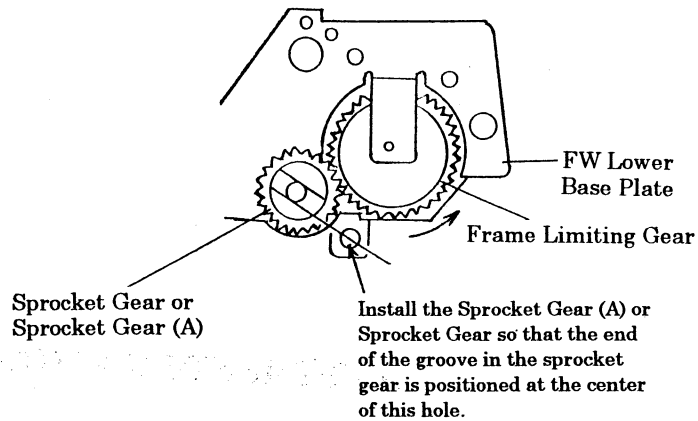

Fig.69
- 2) Install the Sprocket Gear (A) (1743 6910) so that the end of the groove is positioned at the center of the screw hole in the FW Upper Base Plate.
- 3) When the Sprocket Gear (A) can not be installed in the position as shown in Fig. 69, install it in the 180-degree turned position.
If even the Sprocket Gear can not be installed in the position as shown in Fig. 69, install it in the 180-degree turned position.